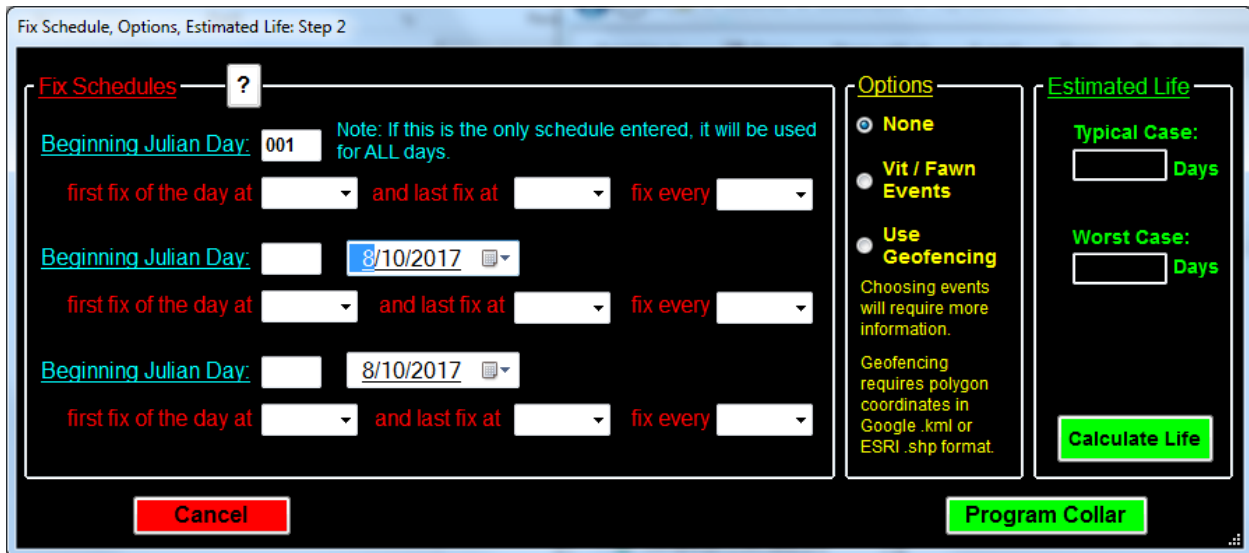

Figure 4. Fix Schedule, Options, Estimated Life.
6. Next, the Fix Schedule, Options, Estimated Life window should appear (see Figure 4). This page contains the GPS fix schedule options. You can also set up alarm options on this page for the *Neolink* system (see Section 12, 13 and 14 for more details). Lastly, a life estimate can be obtained using the life calculator. When the schedule is ready to be uploaded to the collar, click on the Program Collar button. Then touch the magnet to the collar where the magnet stays during off mode and remove the magnet. If done correctly the PC will begin uploading a schedule to the collar.